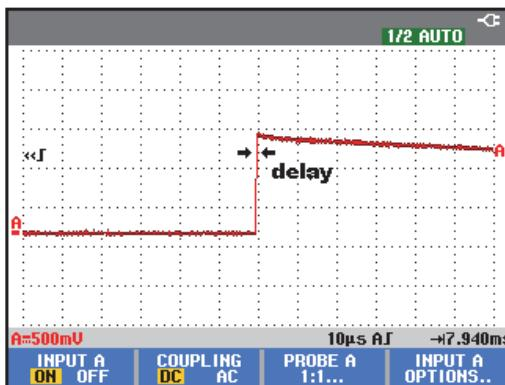

Figure 4-7. Time Base Verification
d) Use **MOVE** to move the trace to the left. Once the trigger point is shifted across the left hand border of the display, going off display, the trigger delay time with respect to the first vertical grid line will be indicated in the lower right of the display, see Figure 4-7.
5. Examine the rising edge of the time marker pulse at the height of the trigger level indicator top. Verify that the rising edge is at the center grid line. The allowed deviation is ±3 pixels, see Figure 4-7.